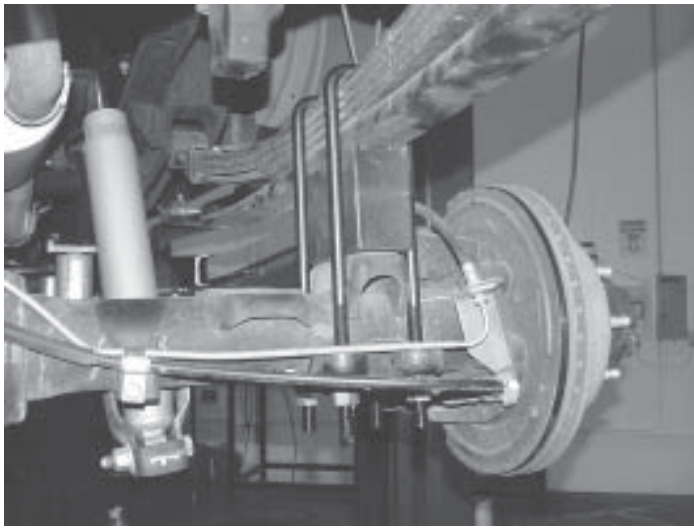

Fig. 22
- A. Position blocks on top of axle with narrow end facing towards front of vehicle. Fig. 22